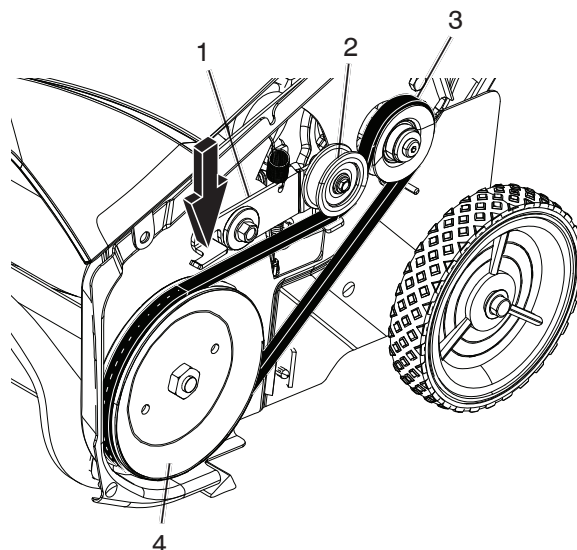

Figure 31
4. Install the new drive belt, routing it as shown in (Figure 31).
**NOTE:** Route the new drive belt first around the engine pulley, then the idler pulley, and finally around the drive pulley while pressing down on the front of the idler arm. (Figure 31).